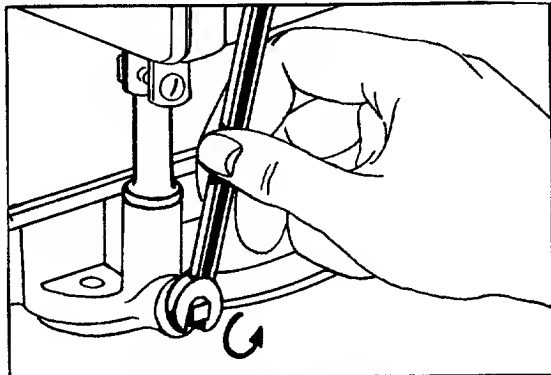

FIGURE 15. OIL DRAIN
After the first five hours of operating a new engine, drain the oil (See figure 15.) from the crankcase while engine is still hot and refill crankcase with new oil; thereafter change the oil every 25 hours of operation. This procedure ensures for minimum wear of engine parts and provides for virtually trouble-free operation. To change the oil, proceed as follows:
Step 1. With the machine on level ground, place a suitable metal container under the oil drain plug, then remove the drain plug. See figure 15.